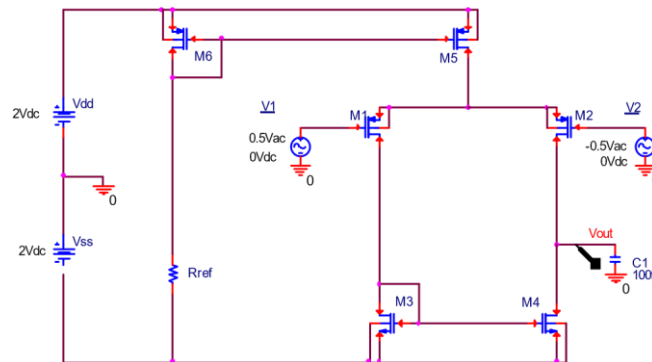

Figure 1. Schematic of the PMOS gain stage with NMOS current mirror load
In the differential mode as shown in Figure 1:  $V_1 = -V_2 = 0.5$  V AC, 0 V DC.
1. For the amplifier in Figure 1 set the bias current as follows: assign Rref the value in kOhm equal to 100 + last two non-zero digits of your ID number to have it in the range  $100\text{ k} < R_{ref} < 200\text{ k}$ . Select the ratio of MOSFET widths in the current mirror M5, M6 to be  $W_5/W_6=5$ . Keep gate lengths equal:  $L_5=L_6$ . Select MOSFET dimensions W, L for M1, M2, M3, M4, M5, M6 to meet the following specifications: